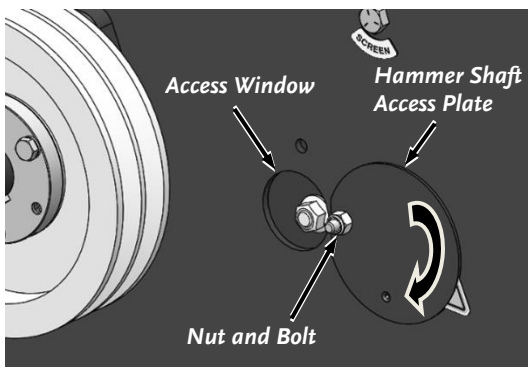

Figure 44
10. Loosen the Lock Nut and Bolt that holds the Hammer Shaft Access Plate to the Side Plate using two 7/16" Wrenches. Rotate the Plate upward to expose the Access Window (**Figure 44**).
23. Reposition the Hammer Shaft Access Plate (**Figure 44**).